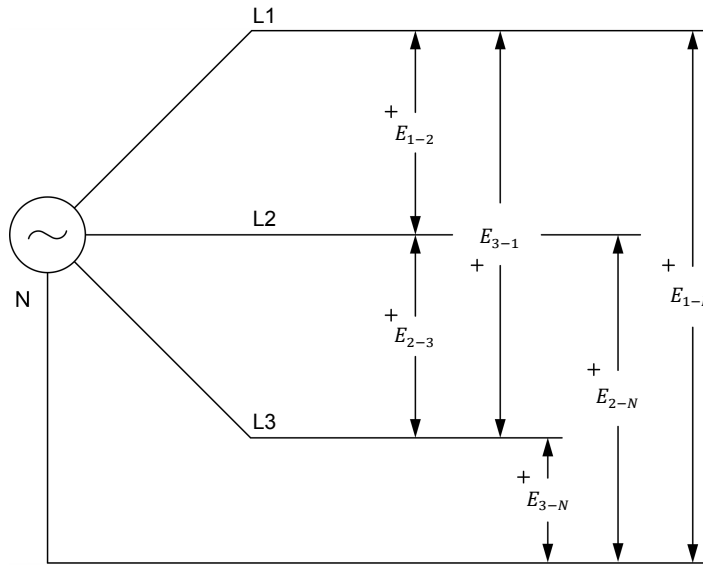

Figure 5. Phase and line voltage measurements.
8. Set up the circuit shown in Figure 5.
14. On the DACI, modify the connections to voltage inputs *E1*, *E2*, and *E3* to measure the line voltages ( $E_{1-2}$ ,  $E_{2-3}$ , and  $E_{3-1}$ , respectively) of the three-phase ac power source (see Figure 5).
Make sure to connect voltage inputs *E1*, *E2*, and *E3* of the *Data Acquisition and Control Interface (DACI)* with the polarity indicated in Figure 5.